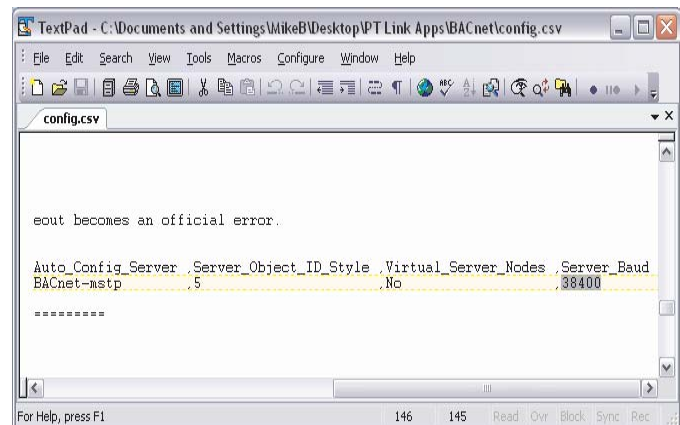

Figure 15: Changing the Baud Rate in Notepad
10.) If the server baud rate needs to be changed, go to the 'Connections' section and only change the SERVER_BAUD (**Figure 15**). Possible Baud Rate values are (9600, 19200, 38400, 76800). The default Baud Rate is 38400. You can obtain this information from your BAS Integrator.